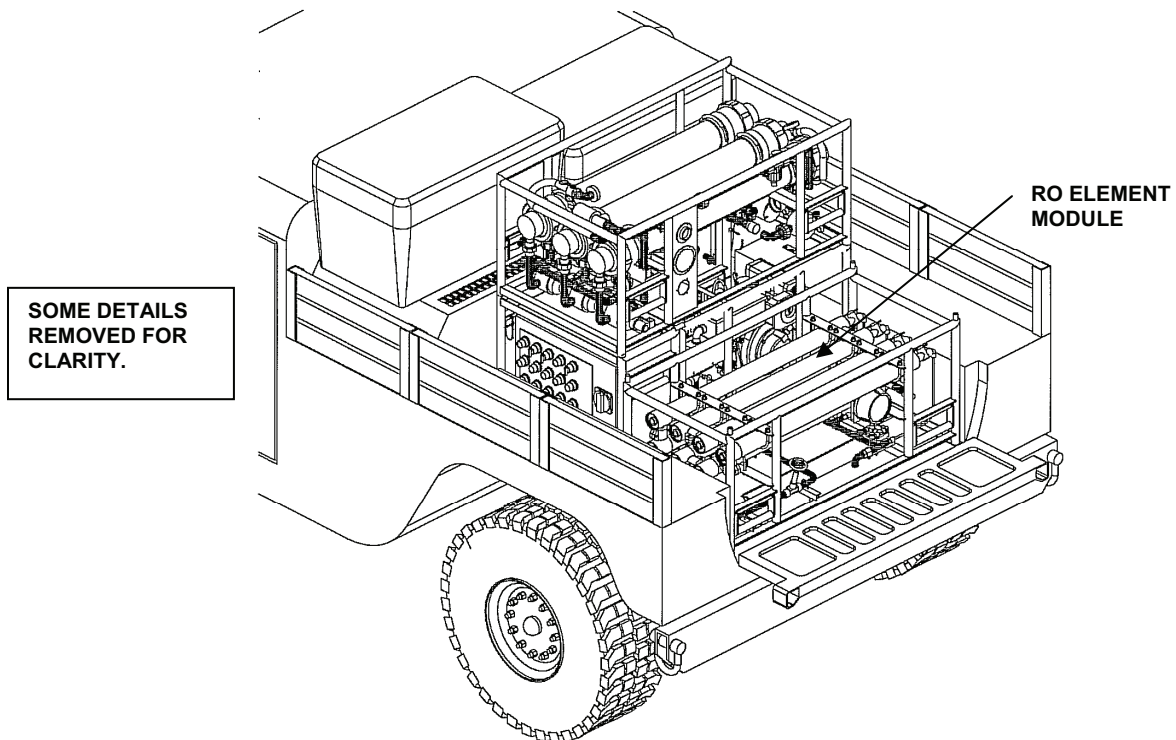

Figure 11. Loading RO Element Module.
20. Load the RO element module in the cargo compartment. Place in front of UF assembly, high-pressure pump module, and control module. See Figure 11.